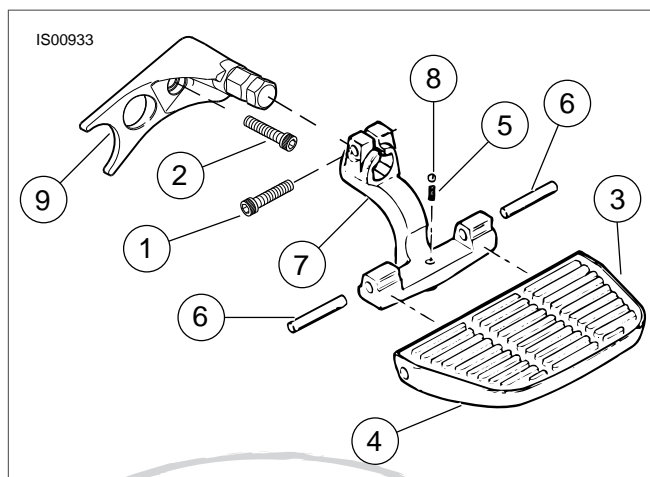

Figure 1. Service Parts: Softail Passenger Footboards
See Figure 1 and Table 1.
2. See Figure 1. Position footboard mount (9) and insert socket head capscrew (2) through part and into footpeg mounting hole.
4. Tighten footboard mounting screw (2) to 45-50 ft-lbs (61-67.8 N-m).
5. Position footboard support (7) on mounting stud so that bolt hole aligns with machined groove in stud.
6. Insert screw (1) through left side in split hub of footboard support (7). Thread into tapped hole (right side) of split hub.
7. Tighten screw (1) to 10 ft-lbs (13.6 N-m).
8. Insert spring (5) into retaining hole in footboard support (7). Rest ball (8) on top of spring.
9. Position footrest (4) onto footboard support (7). Be careful not to unseat ball (8).
10. Press down on footrest so holes align. Insert pivot pins (6) through footrest and through the two mounting lugs on footboard support. Check to be certain ball (8) is seated in detent at underside of footrest.
11. Moisten footboard insert (3) rubber tabs and the footboard (4) insert mounting holes with dish soap to ease installation.